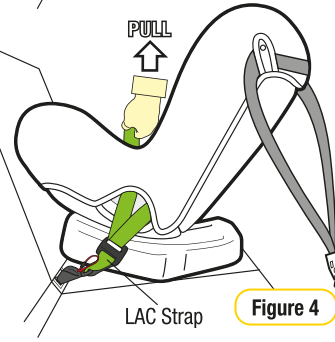

Figure 4
**Step 5:** Locate the adjuster at the side of the restraint and secure using the Top Tether Strap Guide (refer Figure 4 & 5).